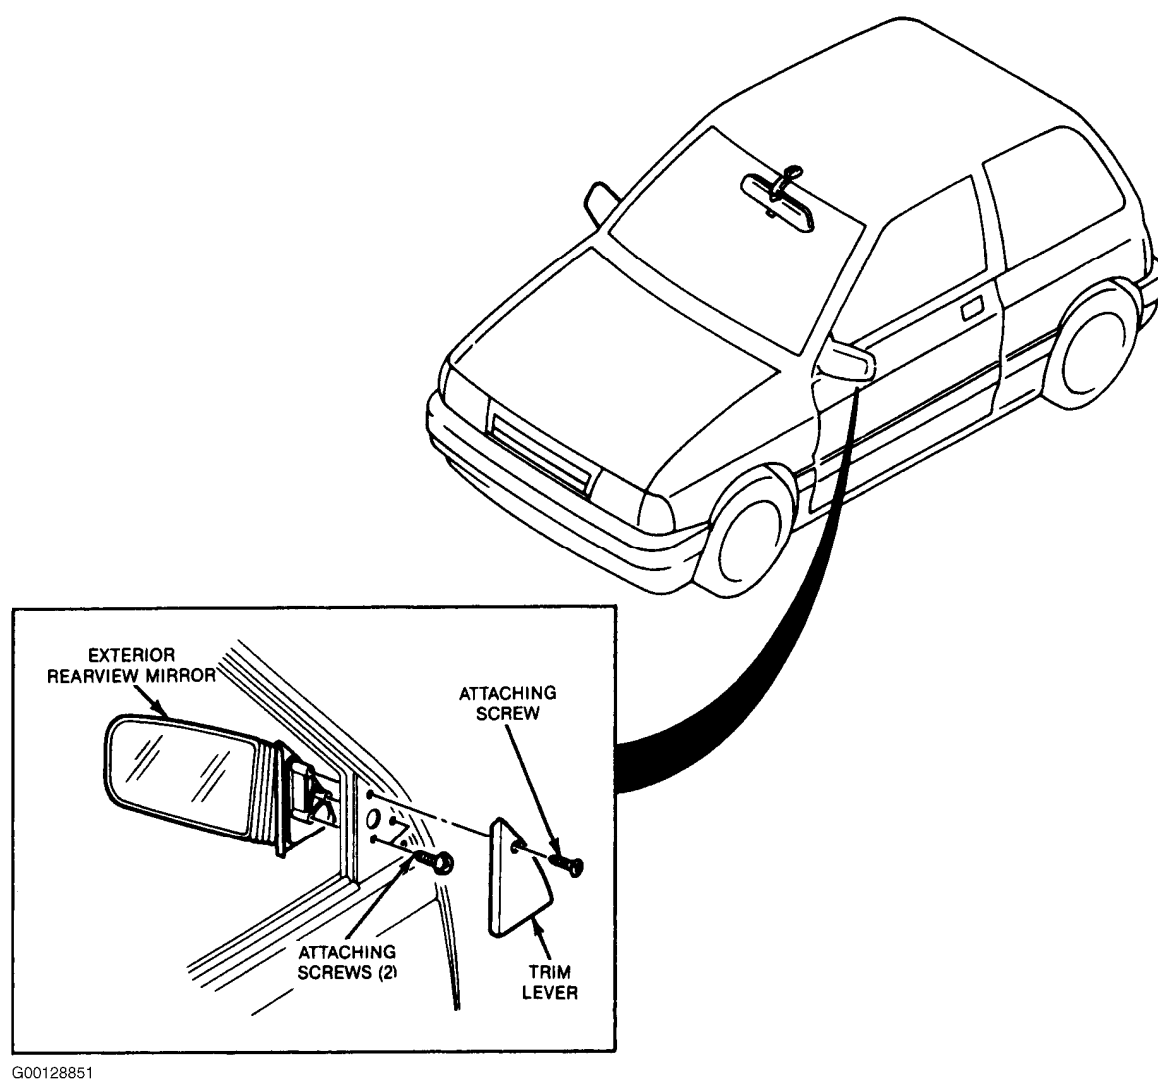

Fig. 9: Removing & Installing Power Rear View Mirror
1. Remove the interior trim cover attaching screw and trim cover. See **Fig. 9** .
4. Remove the seal from the mirror. See Fig. 9.